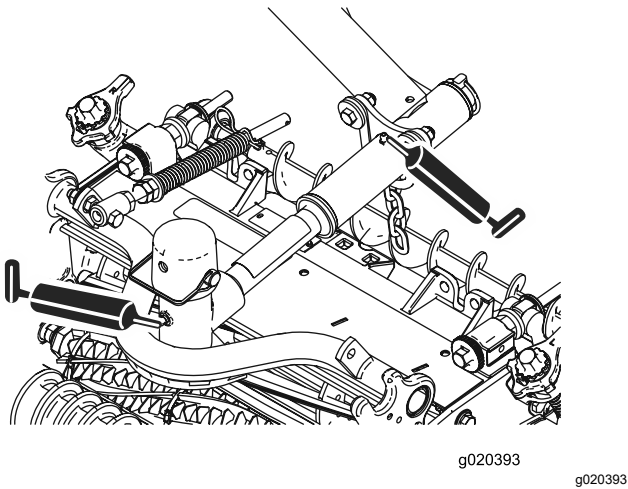

Figure 51
- Cutting unit pivots (2 each); refer to Figure 51.